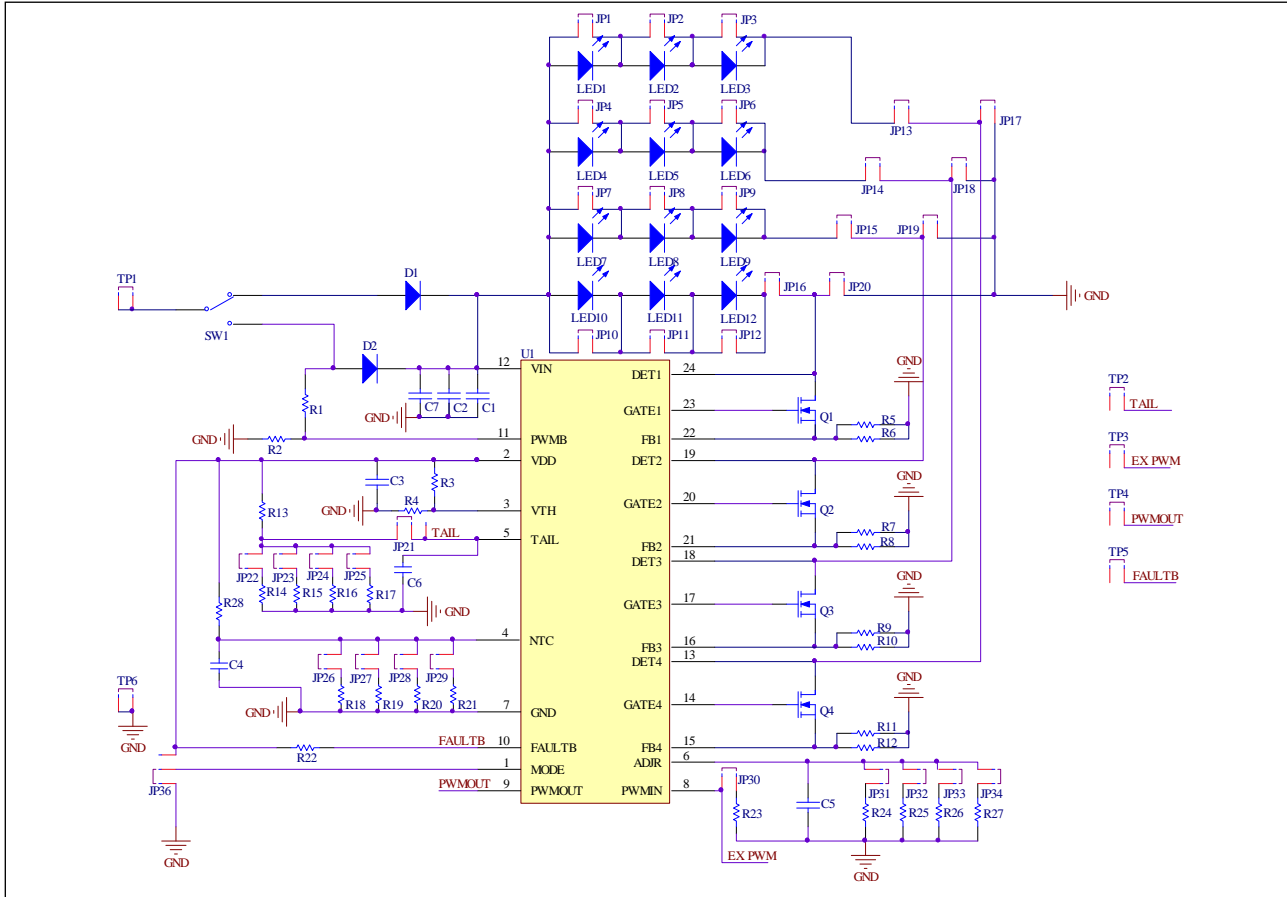

Figure 2: IS32LT3123 Application Schematic
When the TAIL pin is tied to V_{DD} directly, the IS32LT3123 will be in external PWM dimming mode. As in Figure 2 of the datasheet. The integrated PWM generator is disabled. An external PWM signal on PWMIN pin can modulate the output current based on the duty cycle. The recommended frequency range of the external PWM signal is 100Hz~1kHz and the duty cycle can be from 0 to 100%. Since the output current has slew rate control for EMI consideration, a lower frequency PWM will get better dimming contrast ratio. The calculation of output current is identical as Equation (15) and (16). Note that the PWMIN pin is high impedance input in external PWM dimming mode.
Bill of Materials refers to Figure 2 above.